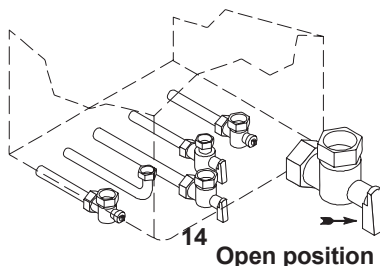

Fig. 7.1
- Open the gas cock 14 (Fig. 7.1) on the appliance and check the gas connector on